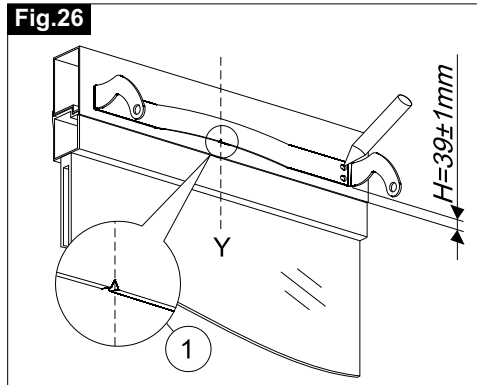

Fig.27
- 4) **Fig.27/28-** With a suitable drill, perform four holes of  $\varnothing 3.7$  on the frame and tighten the bracket with the suitable screws;